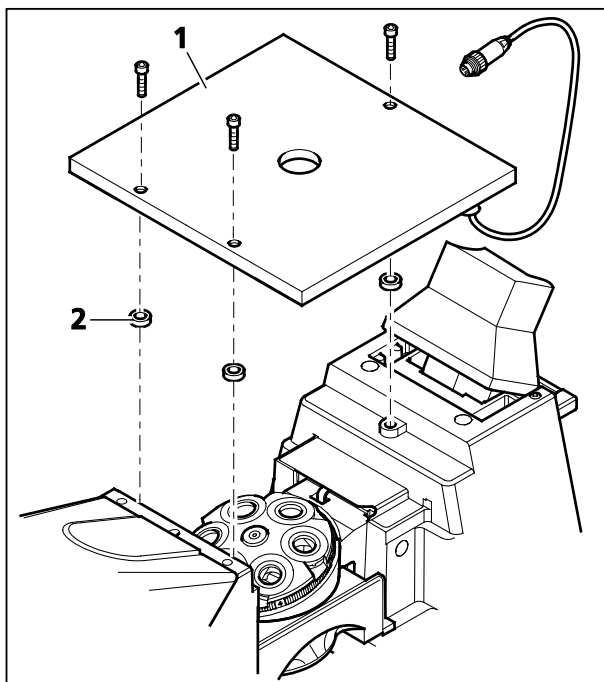

Fig. 30 Fitting the heatable microscope stage S1
- Place the spacer disks (Fig. 30/2) on the three contact points of the stand.
- Place the heating stage (Fig. 30/1) onto the stand and screw into place from above using three Allen screws. Ensure that each screw passes through the hole in the relevant spacer disk.